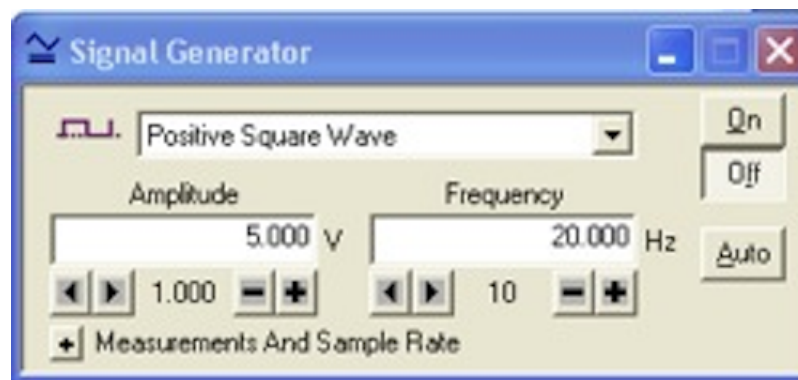

Figure 9: Signal generator window
- 7 Set the signal generator to produce a positive square wave by highlighting the positive square wave in the signal generator window as shown in Fig. 9 below.